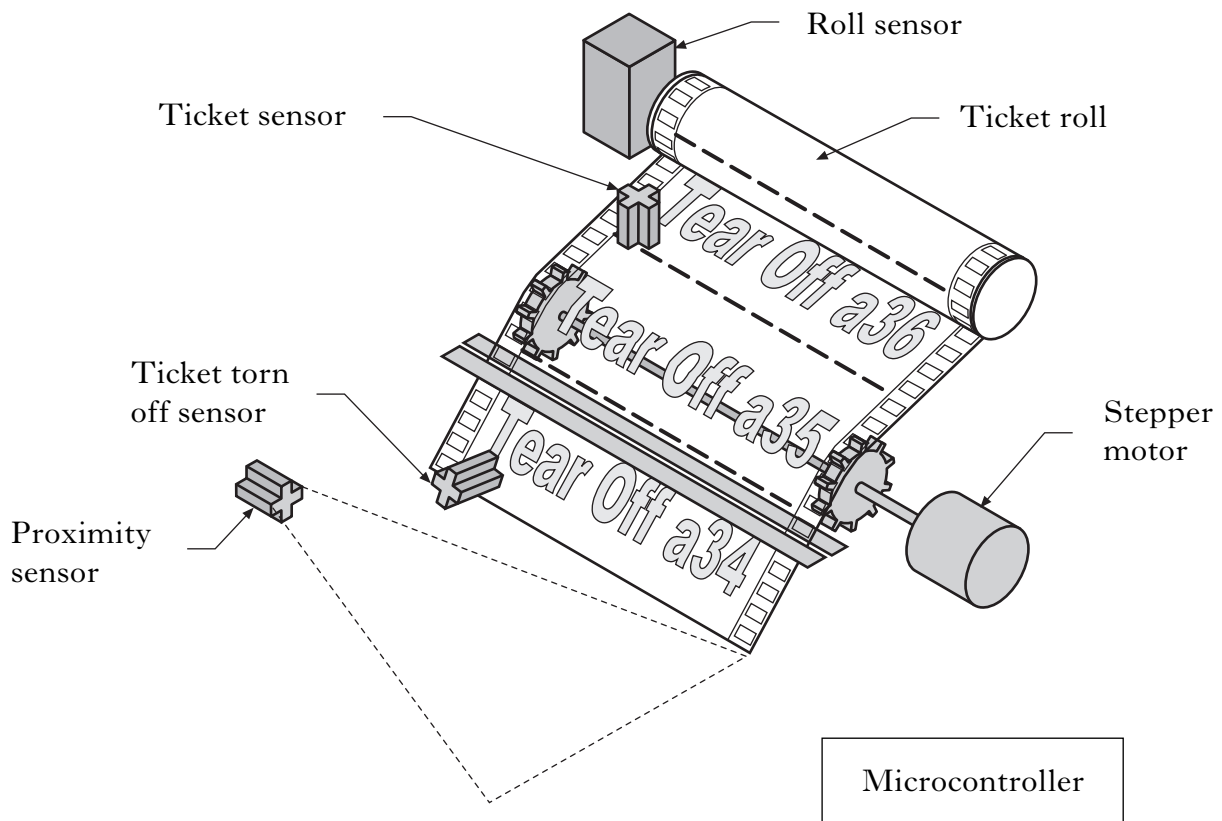

Figure Q11
11. A number of businesses use a ticket based queuing system. The automatic ticket dispenser in Figure Q11 has the following main components:
The system is supplied with a roll of 150 perforated tickets which are detected by the roll sensor. A user needs to activate the proximity sensor to let the system know a ticket is requested. The system automatically feeds **one** ticket each time the proximity sensor is activated and will **not** feed another ticket until the supplied ticket has been torn off. The diagram in Figure Q11 shows ticket a34 ready to be torn off. The “ticket torn off sensor” detects when that ticket has been torn off by the user.